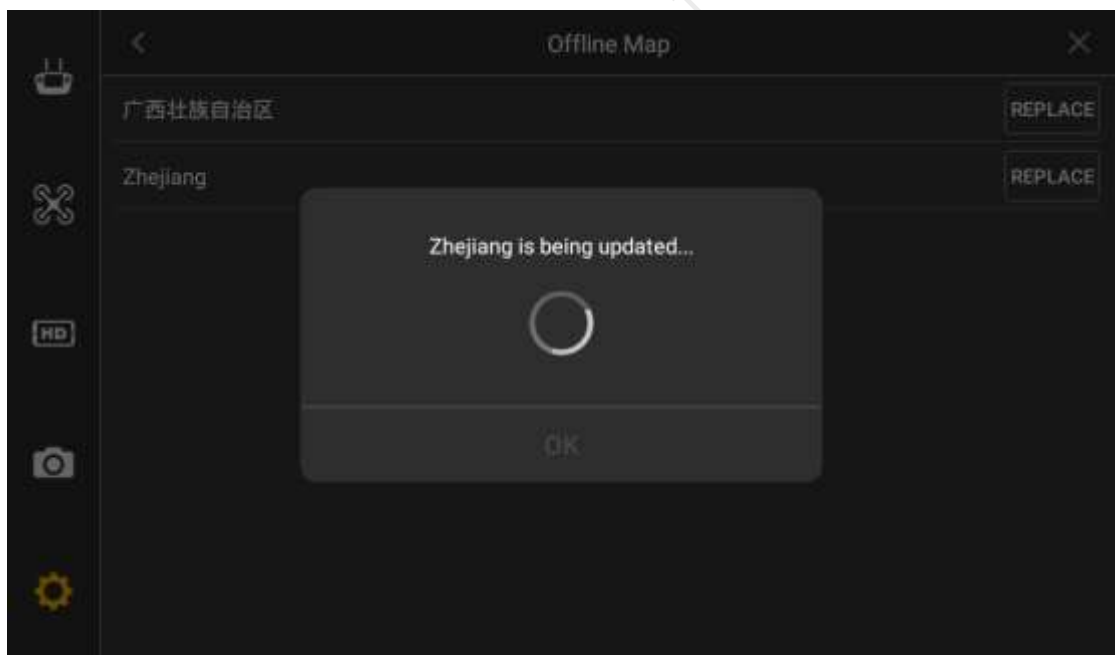

Figure 6-5
Step 3 Select the city which needs to be updated, click "Replace" button to update the city map immediately, as shown in Figure 6-5. After the update is completed, the interface displays “Beijing City map is imported successfully. Please reboot APP”.